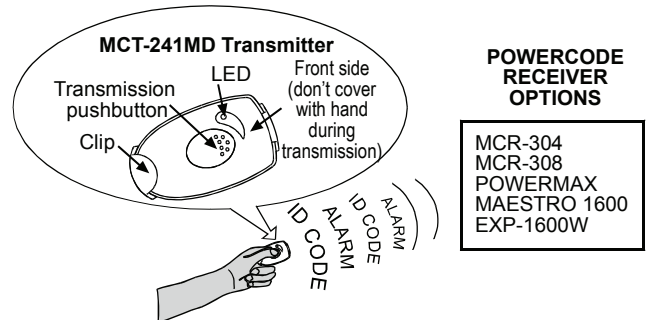

Figure 1 - Using the MCT-241 MD
- Depressing the recessed oval pushbutton (see Fig. 1). A built-in timer determines the transmission time to 3 seconds, even if the user maintains the button pressed shorter or longer than that.
A red LED (see Fig. 1) lights steadily during transmission, to reassure the user that a transmission is taking place and to indicate that the battery condition is good. If the LED flashes each time the transmitter is triggered, this indicates that the voltage is low and the battery must be replaced as soon as possible.